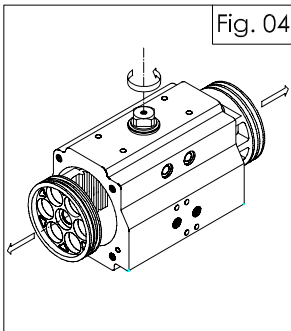
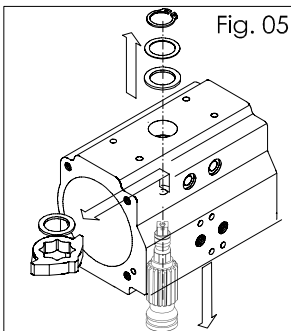

Fig. 04
Fig. 05
D) Pistons disassembly (Part NO.07),figure 04:
- Holding the body (06) in a vice or similar device, rotate the drive shaft (23) until the pistons (07) are released. Caution: Air pressure should not be used to remove the pistons from the body.
- Remove piston "O" rings (13) using a small screwdriver; remove the piston back (14) and piston head (15) bearings. Discard bearings when replacing all soft components.
E) Pinion shaft disassembling (Part NO.23) , figure 05:
- Remove spring clip (03) carefully, using nap-ring pliers, remove external thrust bearing (05) and thrust washer (04).
- Apply downward force to top of drive shaft (23) until it is partially out of the bottom of the body when it is possible to remove the octi-cam (22) and internal thrust bearing (05), then push the pinion (23) completely out of the bottom of the body. If pinion does not remove freely gently tap the top of the shaft with a plastic mallet.
- Remove top and bottom pinion bearings (20) and (24) and top and bottom pinion O-rings (25) and (19).
- Discard bearings (20) and (24), internal and external thrust washer (05) and O-rings (25) and (19) if replacing all soft components. When all components are disassembled, those not being replaced should be properly cleaned and inspected for wear prior to being greased and re-assembled.